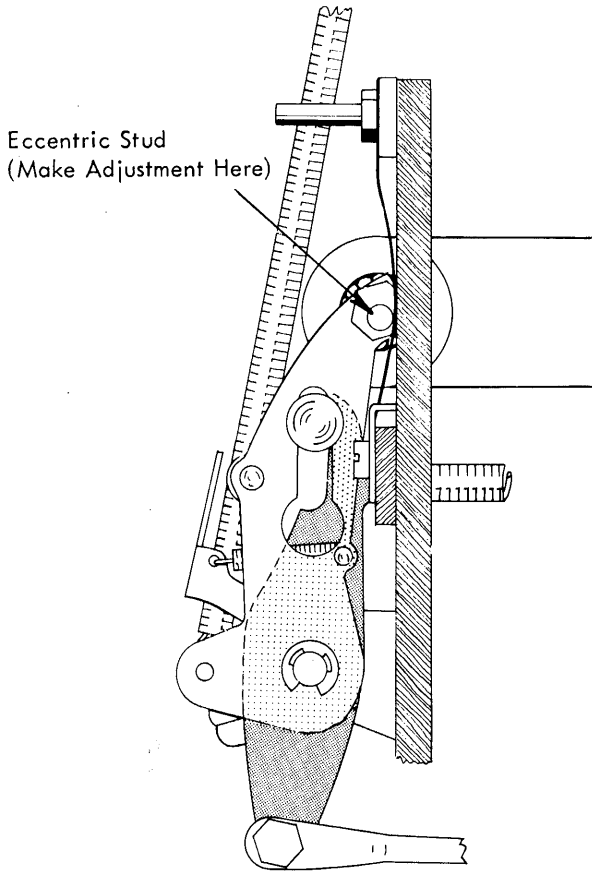
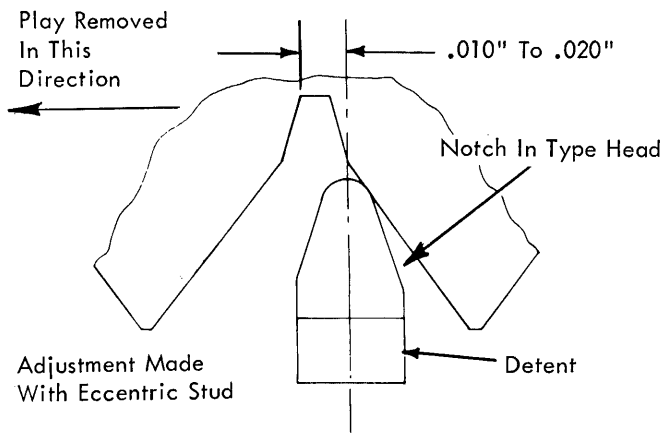

FIGURE 125. Eccentric Stud
FIGURE 126. Eccentric Stud
- c. Half-cycle an upper case -5 character and adjust the eccentric stud (Fig. 125) in against the machine sideframe until the -5 character detents .010" to .020" in the negative direction from the center of the detent notch when the head play is lightly removed in the negative direction (Fig. 126). Make sure that the damper spring is fully collapsed against the machine sideframe.